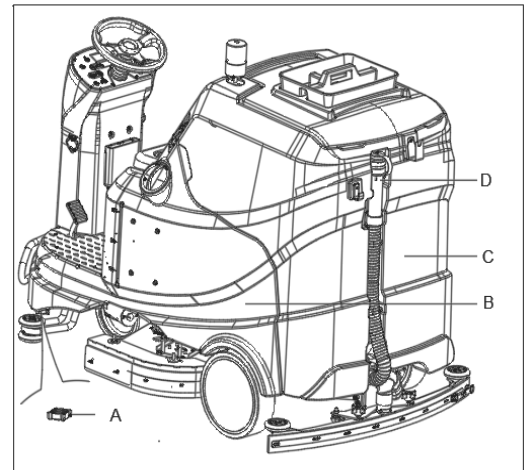

Figure 15
When the Multifunction display (47, Figure 3) show ERROR24 and the recovery tank full indicator (48, Figure3) is turned on. It indicates the recovery tank (C, Figure15) is full, the vacuum motor cannot longer dry the floor. Empty the recovery tank as following steps:
4. Empty the recovery water tank with the hose (D, Figure 15). Then, rinse the tank (C, Figure 15) with clean water.
1. Empty the solution tank with the outlet cover (A, Figure 15). After working, rinse the tank with clean water.
2. Empty the tanks (B and C, Figure 15) as shown in the previous paragraph.